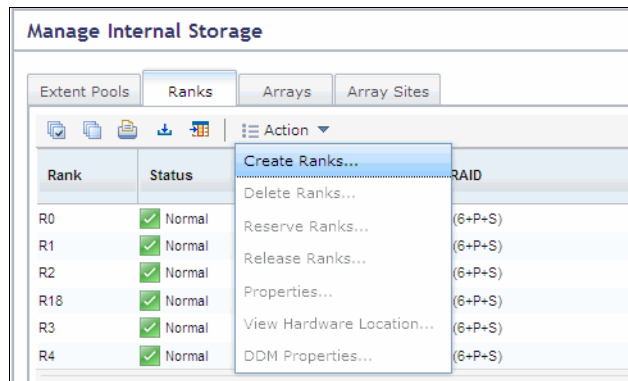

Figure 13-24 Select Create Ranks
1. In the GUI, from the navigation pane, hover over **Pools** and click **Internal Storage**. This brings up the Internal Storage window. Click the Ranks tab to start working with ranks. Select **Create Rank** from the **Action** drop-down menu as shown in Figure 13-24.